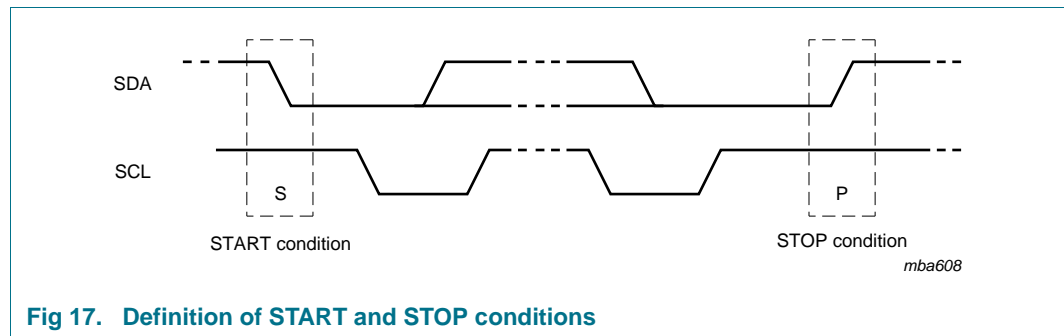

Fig 17. Definition of START and STOP conditions
Both data and clock lines remain HIGH when the bus is not busy. A HIGH-to-LOW transition of the data line while the clock is HIGH is defined as the START condition (S). A LOW-to-HIGH transition of the data line while the clock is HIGH is defined as the STOP condition (P) (see Figure 17.)